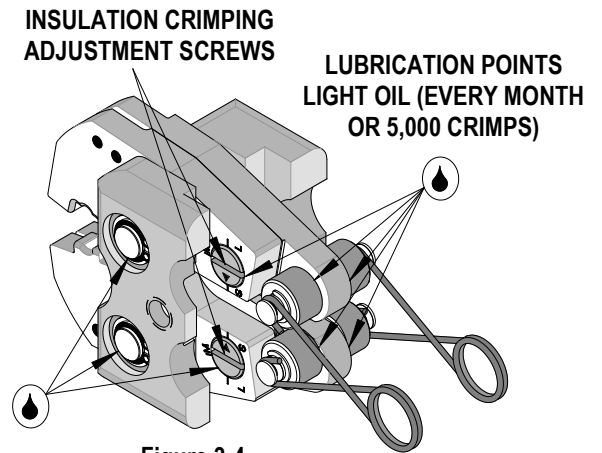

Figure 3-4
1. The crimp tool heads for the insulated terminals and the connectors feature an adjustable insulation support crimp to accommodate varying wire insulation diameters (See Figure 3-4) for old style crimp tool head.